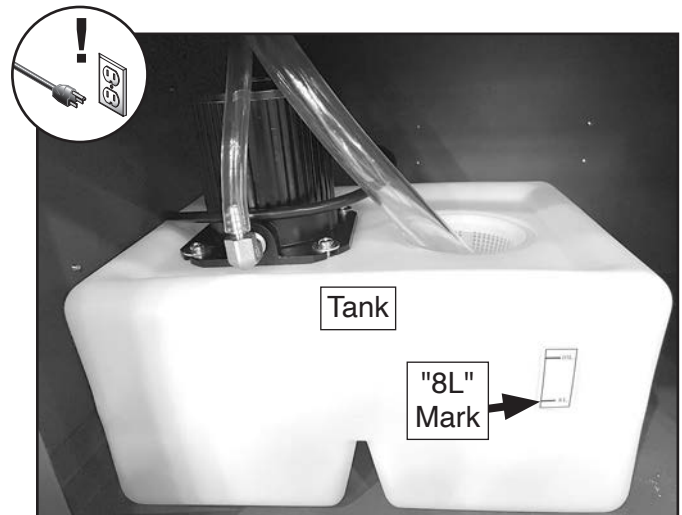

Figure 53. Drain tube placed in tank.
2. Mix cutting fluid according to cutting fluid manufacturer's specifications and fill tank with cutting fluid past "8L" mark on tank (see **Figure 53**).